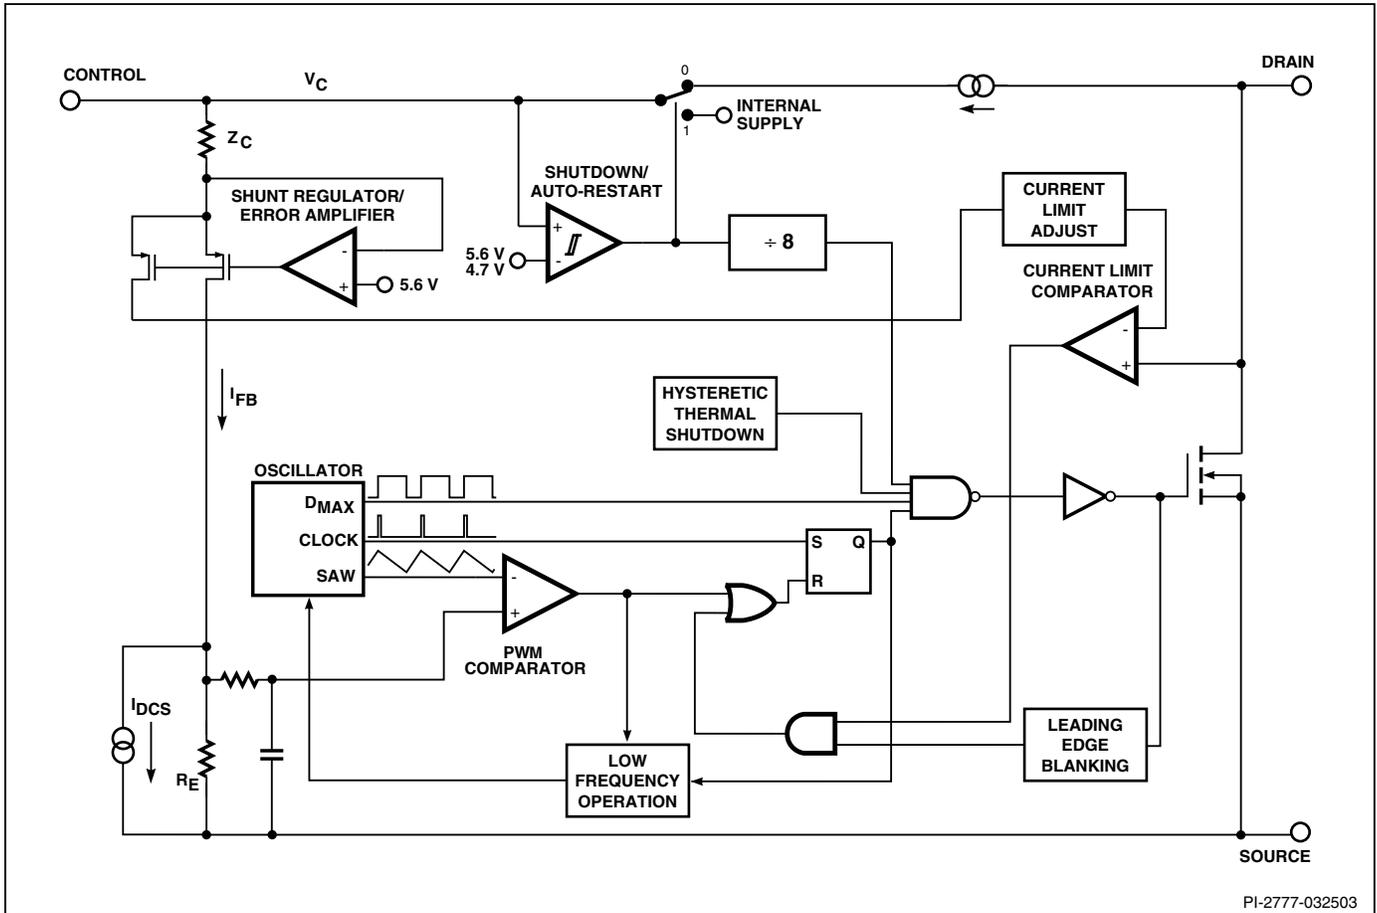
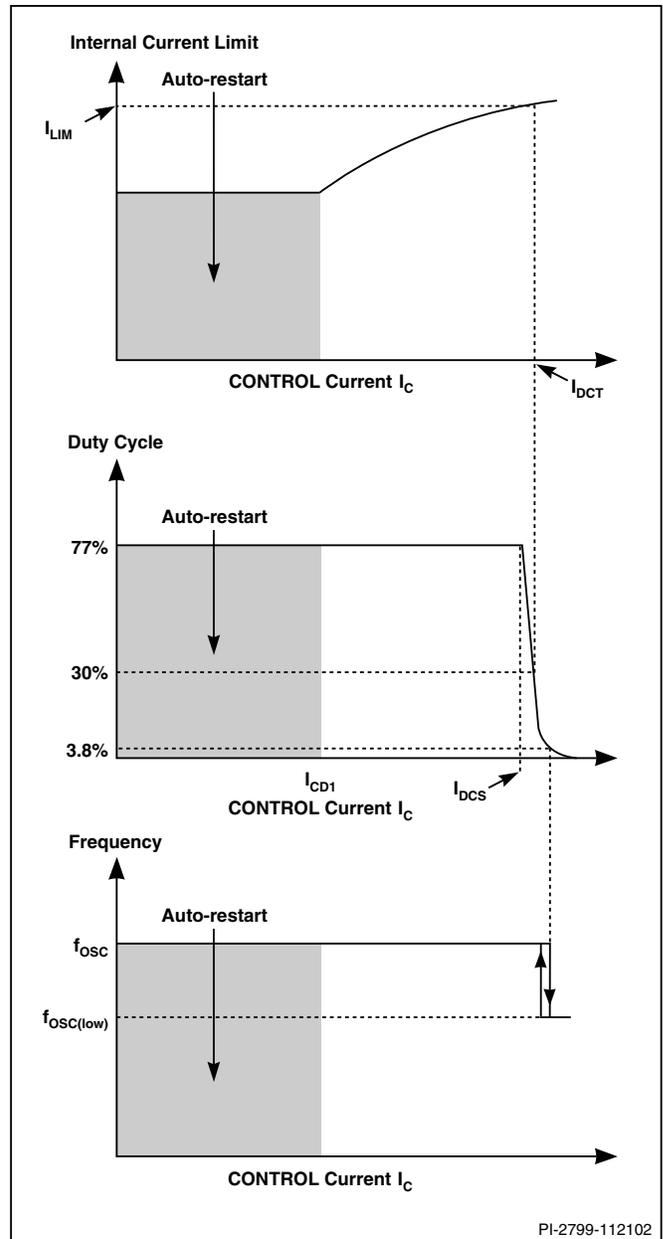
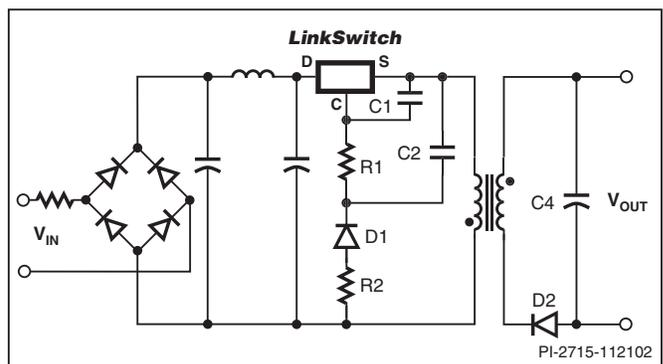
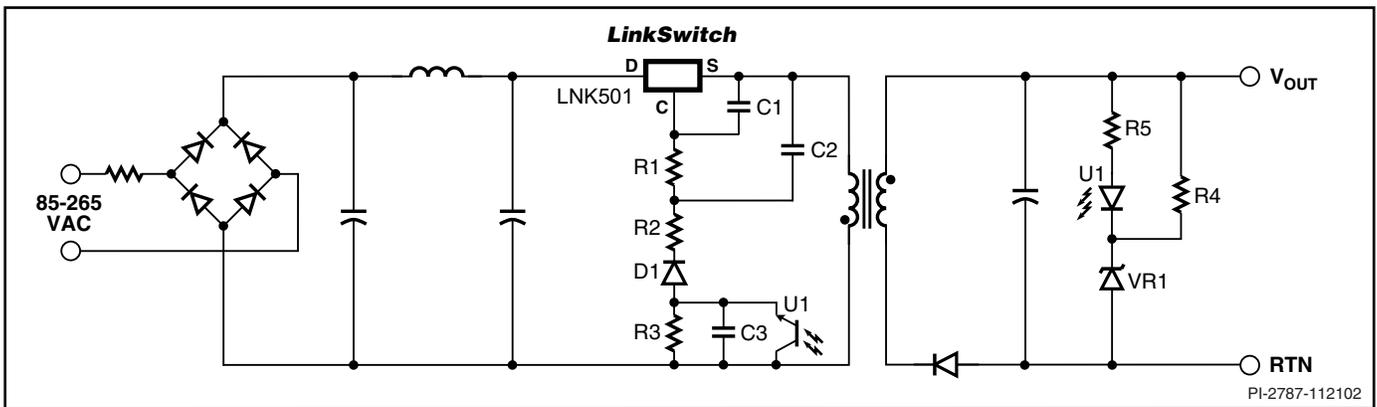

Figure 2. Block Diagram.
Figure 4. CONTROL Characteristics.
Figure 5. Power Supply Outline Schematic.
Figure 6. Power Supply Outline Schematic with Optocoupler Feedback.
The duty cycle, current limit and operating frequency relationships with CONTROL pin current are shown in Figure 4. Figure 5 shows a typical power supply outline schematic which is used below to describe the *LinkSwitch* operation.
During power up, as V_{IN} is first applied (Figure 5), the CONTROL pin capacitor C1 is charged through a switched high voltage current source connected internally between the DRAIN and CONTROL pins (see Figure 2). When the CONTROL pin voltage reaches approximately 5.6 V relative to the SOURCE pin, the high voltage current source is turned off, the internal control circuitry is activated and the high voltage internal MOSFET starts to switch. At this point, the charge stored on C1 is used to supply the internal consumption of the chip.
As the output voltage, and therefore the reflected voltage across the primary transformer winding ramp up, the feedback CONTROL current I_C increases. As shown in Figure 4, the internal current limit increases with I_C and reaches I_{LIM} when I_C is equal to I_{DCT} . The internal current limit vs. I_C characteristic is designed to provide an approximately constant power supply output current as the power supply output voltage rises.
When I_C exceeds I_{DCS} , typically 2 mA (Figure 4), the maximum duty cycle is reduced. At a value of I_C that depends on power supply input voltage, the duty cycle control limits *LinkSwitch* peak current below the internal current limit value. At this point the power supply transitions from CC to CV operation. With minimum input voltage in a typical universal input design, this transition occurs at approximately 30% duty cycle. R1 (Figure 5) is therefore initially selected to conduct a value of I_C approximately equal to I_{DCT} when V_{OUT} is at the desired value at the minimum power supply input voltage. The final choice of R1 is made when the rest of the circuit design is complete. When the duty cycle drops below approximately 4%, the frequency is reduced, which reduces energy consumption under light load conditions.
Figure 6 shows a typical power supply outline schematic using *LinkSwitch* with optocoupler feedback to improve output voltage regulation. On the primary side, the schematic differs from
Figure 5 by the addition of R3, C3 and optocoupler U1. R3 forms a potential divider with R1 to limit the U1 collector emitter voltage.
The feedback configuration in Figure 6 is simply a resistive divider made up of R1 and R3 with D1, R2, C1 and C2 rectifying, filtering and smoothing the primary winding voltage signal. The optocoupler therefore effectively adjusts the resistor divider ratio to control the DC voltage across R1 and therefore, the feedback current received by the *LinkSwitch* CONTROL pin.
When the power supply operates in the constant current (CC) region, for example when charging a battery, the output voltage is below the voltage feedback threshold defined by U1 and VR1 and the optocoupler is fully off. In this region, the circuit behaves exactly as previously described with reference to Figure 5 where the reflected voltage increases with increasing output voltage and the *LinkSwitch* internal current limit is adjusted to provide an approximate CC output characteristic. Note that for similar output characteristics in the CC region, the value of R1 in Figure 5 will be equal to the value of R1+R3 in Figure 6.
When the output reaches the voltage feedback threshold set by U1 and VR1, the optocoupler turns on. Any further increase in the power supply output voltage results in the U1 transistor current increasing, which increases the percentage of the reflected voltage appearing across R1. The resulting increase in the *LinkSwitch* CONTROL current reduces the duty cycle according to Figure 4 and therefore, maintains the output voltage regulation.
transistor voltage and dissipation ratings and should be fully tested before finalizing a design. The values of C2 and C3 are less important other than to make sure they are large enough to have very little influence on the impedance of the voltage division circuit set up by R1, R3 and U1 at the switching frequency. Normally, the values of C2 and C3 in Figure 6 are chosen equal to the value of C2 in Figure 5, though the voltage rating may be reduced depending on the relative values of R1 and R2 discussed above. See Applications section for typical values of components.
The output voltage load variation can be improved across the whole load range by adding an optocoupler and secondary reference (Figure 6). The secondary reference is designed to only provide feedback above the normal peak power point voltage to maintain the correct constant current characteristic.
The schematic shown in Figure 5 outlines the key components needed for a *LinkSwitch* supply.
Since the SOURCE pins in a *LinkSwitch* supply are switching nodes, the copper area connected to SOURCE together with C1, C2 and R1 (Figure 5) should be minimized, within the thermal constraints of the design, to reduce EMI coupling.